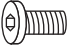

**Figure 3**
- 3 Repeat above process (fig.1 & fig.2) for the right leg as shown in the **Figure 3**.